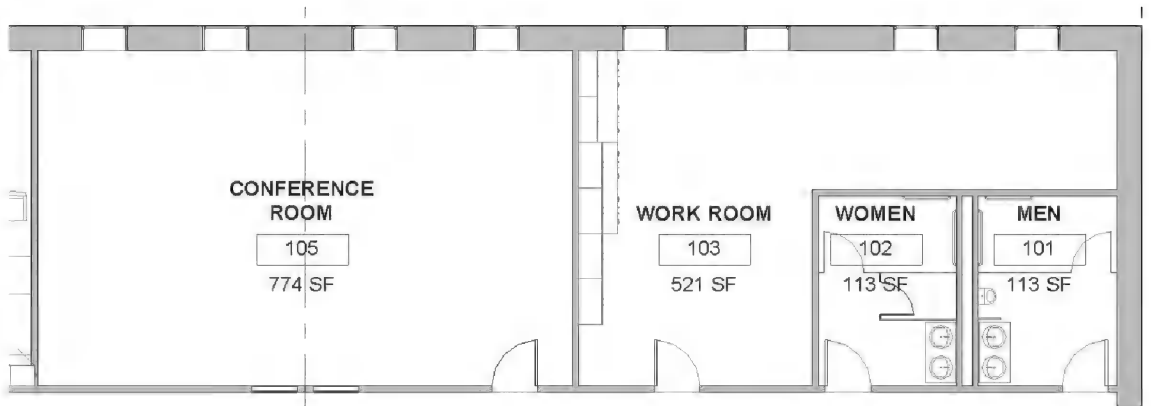

FIGURE 16-3.15 Rooms added; Level 1 – New floor plan view
43. In the **Level 1 – New** view, add **Rooms** as shown in Figure 16-3.15; name and number as shown.